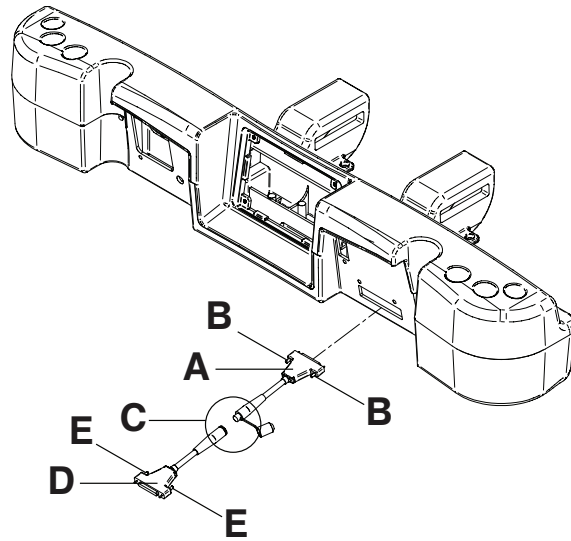

Figure 128 – Wall saver connections
1. Insert the pin end of the first connector (A) into the head end of the product (Figure 128).
2. Screw the connector fasteners (B) in to secure the connector to the product.
3. Connect the back end of the second connector into the back end of the first connector (C).
4. Insert the pin end of the second connector (D) into the wall.
5. Screw the connector fasteners (E) in to secure the connector to the wall.